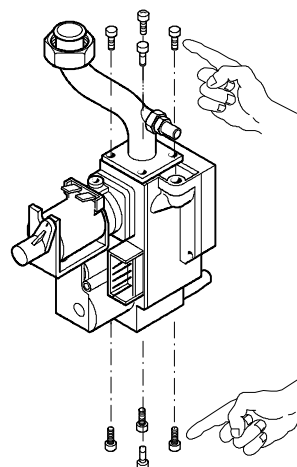

fig. 56
- 4 Unscrew the eight screws indicated in fig. 56 and remove the valve.